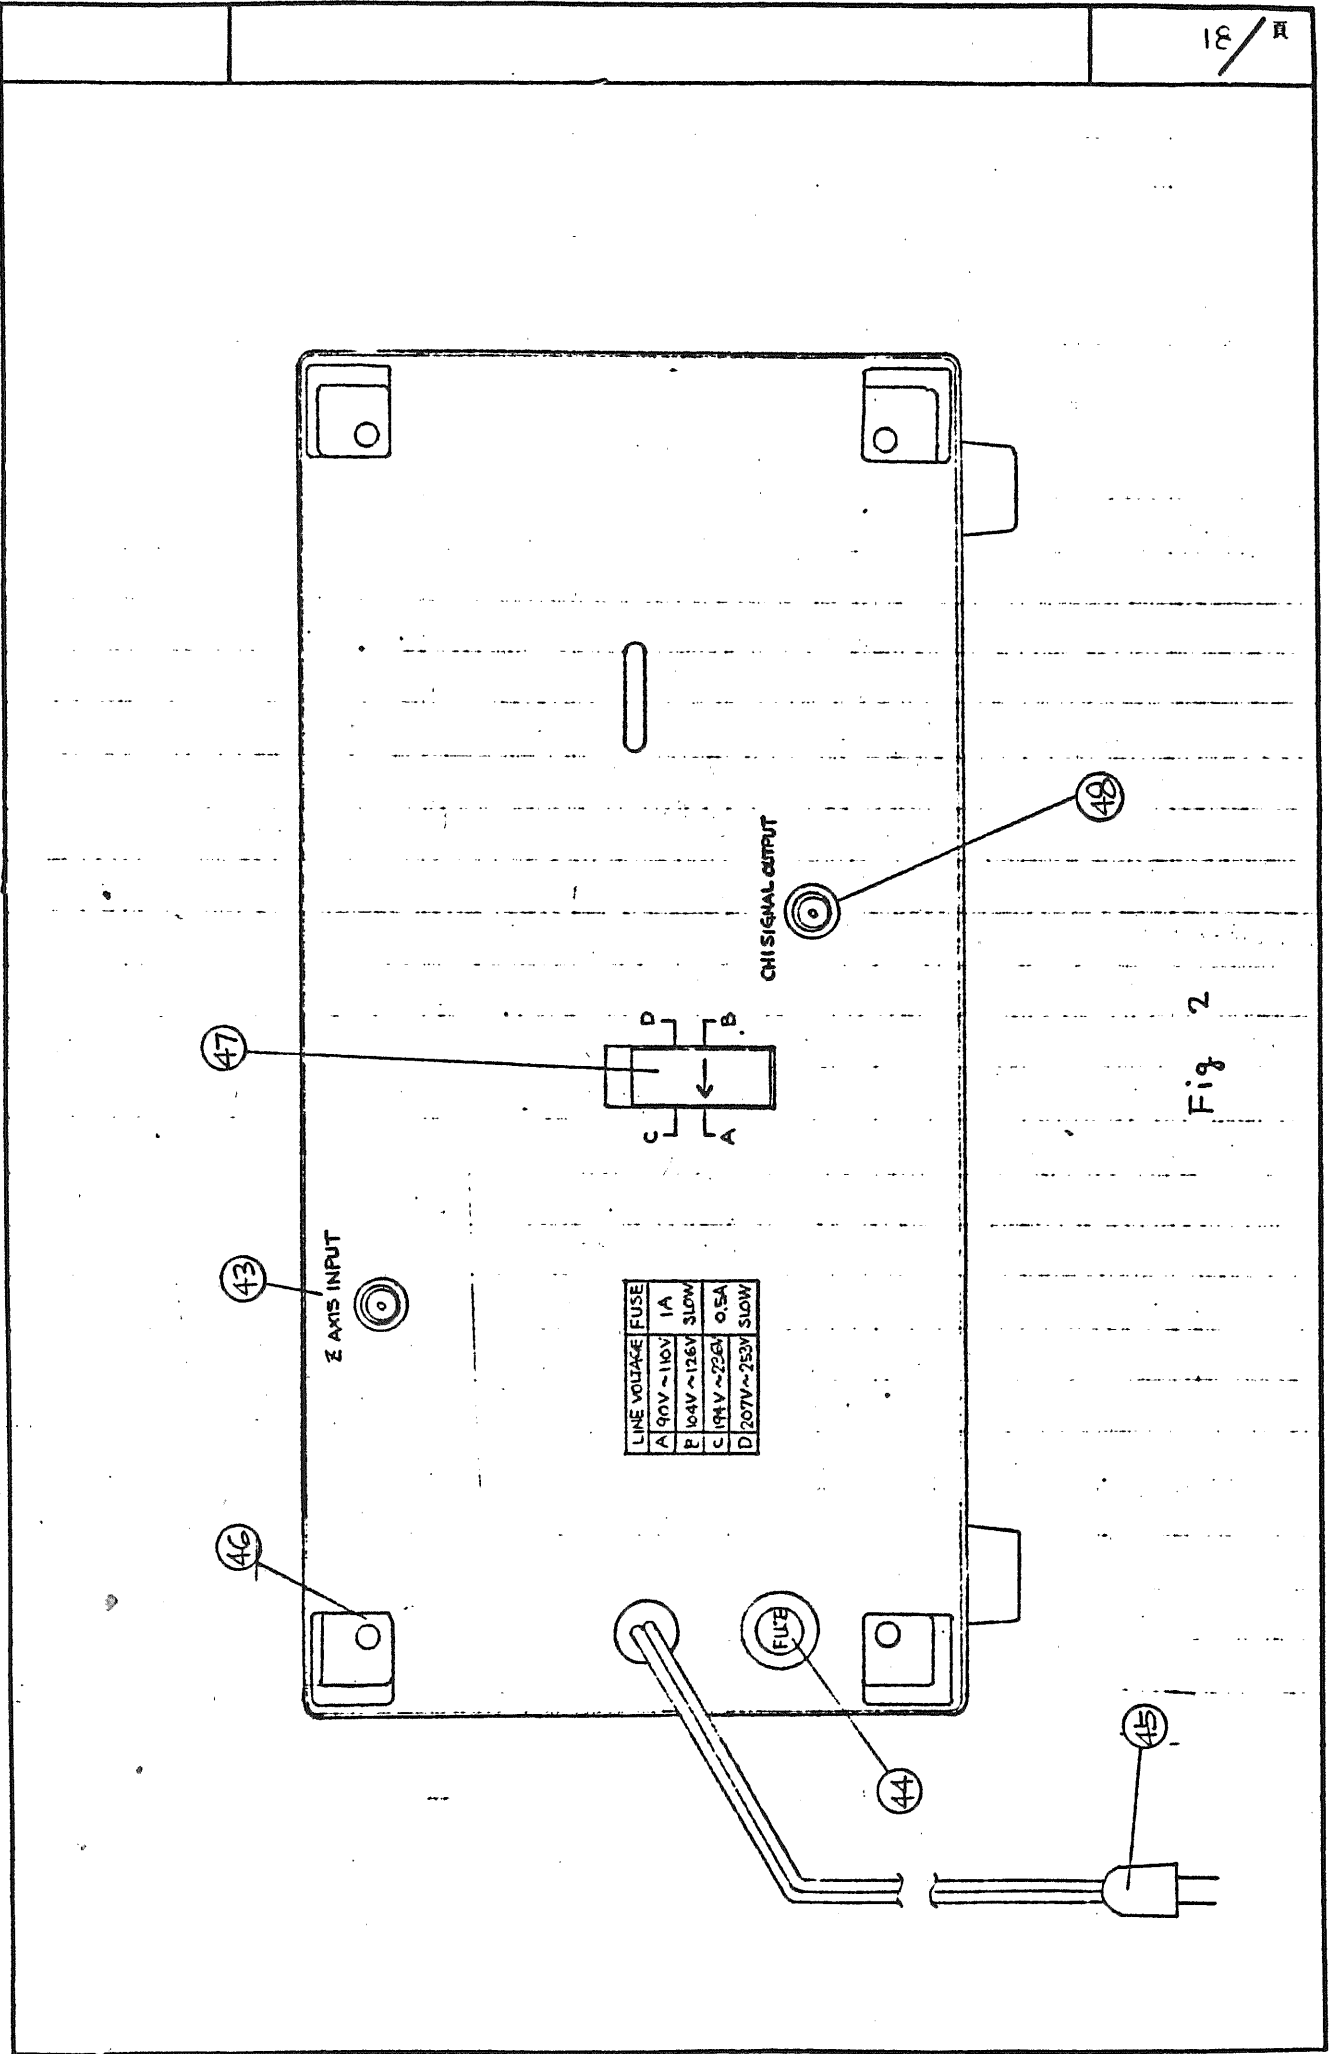

Fig. 2
3.2 Explanation of Rear Panel (Fig. 2)